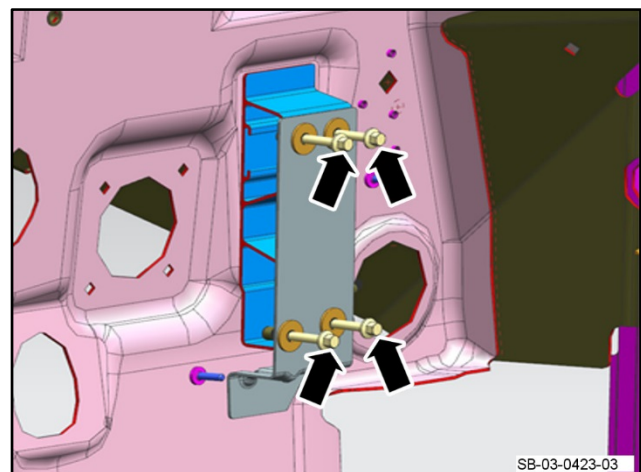

Figure 3
8. Put the support bracket into position. Install and tighten the four M6 x 20 screws to hold the support bracket in position until the adhesive has fully cured (refer to Figure 3).